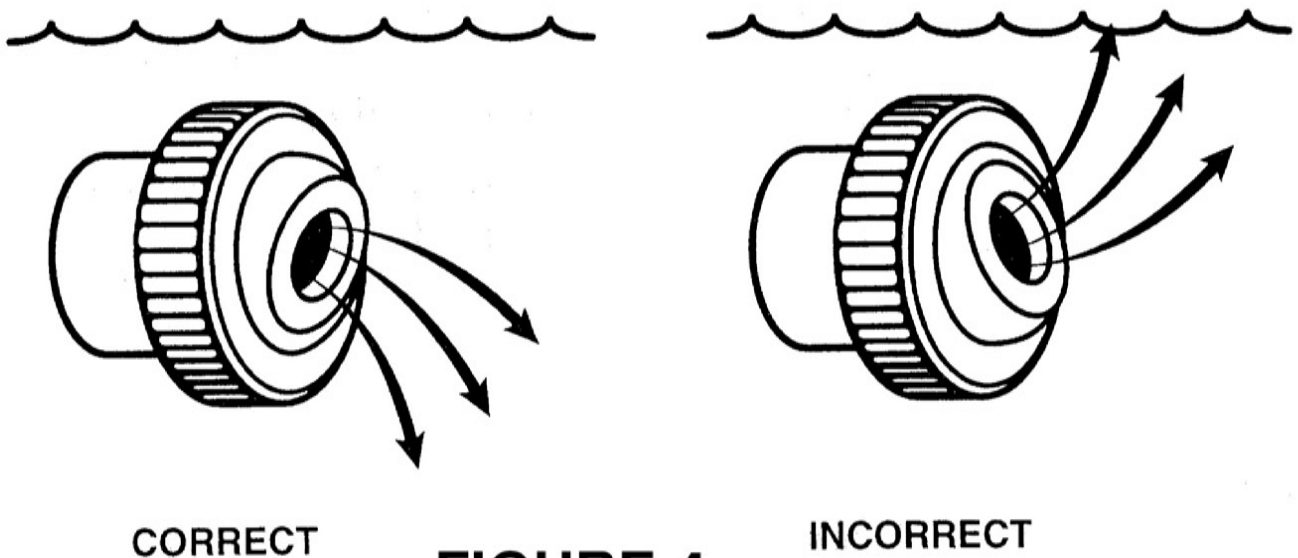

FIGURE 4
•The **POOLGUARD ALARM** should not be placed too close to a pool water return line. If your return line has an eyeball fitting, this must be pointing down, see FIGURE 4.
The POOLGUARD unit should not be placed too close to a return line from the filter area. Water turbulence may be too strong and falsely set the alarm off. If you have more than 2 return lines please call customer service at 1-800-242-7163. It is very important in pools to adjust all the eyeball fittings on your return lines so they will not interfere with your pool alarm. It is not necessary to point your eyeball up for your pool to circulate properly. If the water is swirling on top of the pool this makes the pool too turbulent for your alarm to work properly. Point the eyeball down and your pool will still circulate properly and allow your alarm to function properly. **If you point the eyeball fitting up, your alarm may not function properly.** (See Figure 4)